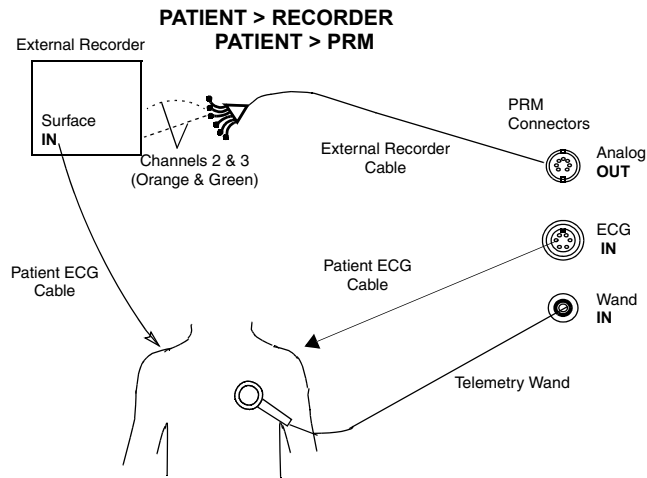

Figure B-4. Parallel connection of PRM surface ECG leads to the appropriate limb electrodes.
- Simultaneous connections from patient to PRM and patient to external recorder (Figure B-4 on page B-5)
To display traces on both PRM and ECG recorders using two different patient ECG leads, set up the equipment as shown in Figure B-4.